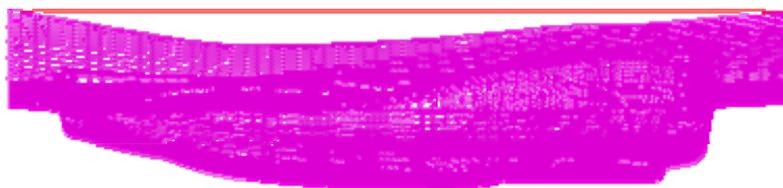

Figure 4.22 The relative position of tool and blank after positioning
6. Click  and  icon on the **Icon bar** to display the relative position of tool and blank, as shown in Figure 4.22.